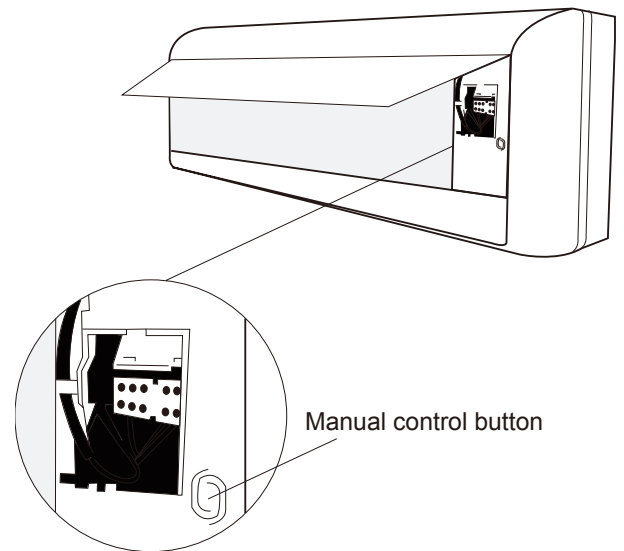

Fig. 8.1
2. The MANUAL CONTROL button is located on the right-hand side of the unit. Press it 2 times to select the COOL function. See Fig. 8.1.